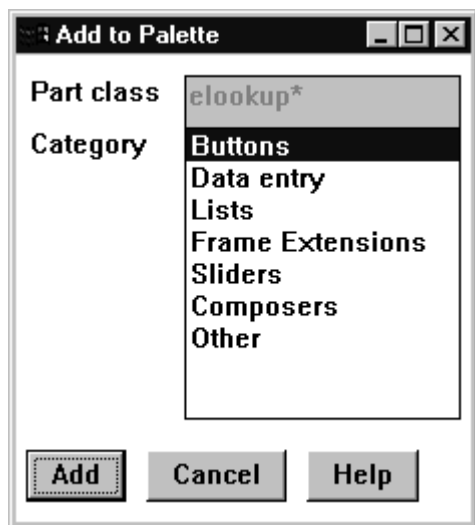

Figure 52. The Add to Palette window
2. Select **File→Add to palette**. Visual Builder displays the Add to Palette window, as shown in Figure 52.